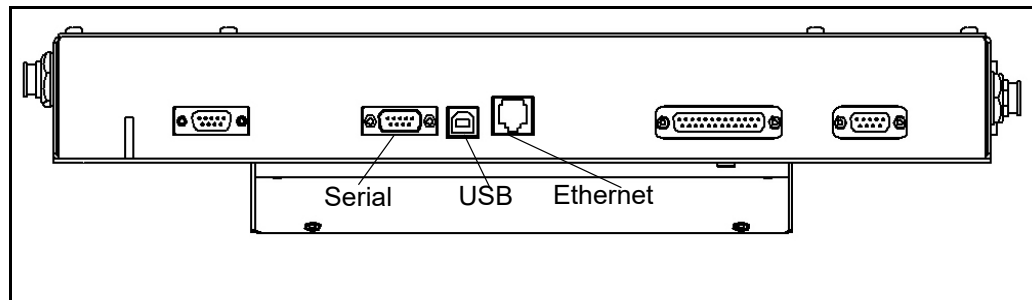

Figure 13
2. Connect the Ethernet cable (supplied) to the CubiScan 125’s Ethernet port, as shown in Figure 13.
1. Connect the USB cable to the CubiScan 125's USB port located on the controller box, as shown in **Figure 13**.
2. Connect the serial cable to the CubiScan 125's serial port, as shown in Figure 13.